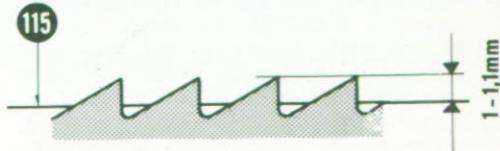

Fig. 40
Next adjust the height of the feed dog. The teeth of the feed dog (114) should protrude by about 1,0 to 1,1 mm (= 0,040" - 0,044") above the top edge of the needle plate (115). Adjustments are carried out by means of the crank (116) of the feed dog lowering device. Set the lowering button (23) until the sewing mark is opposite the zigzag symbol. Take off the base cover plate (117) with needle plate (115). The two fixing screws (118) of the clutch-half (116) both situated on the side facing the frame, are now easily accessible. After loosening these screws move the clutch-half (116) forward or back, thus lifting or lowering the feed dog. After tightening the screw (118) refit the cover plate (117) and check that the feed dog protrudes 1,0 to 1,1 mm above the top of the needle plate (Fig. 40). Check with gauge N 32 NU 11-A.